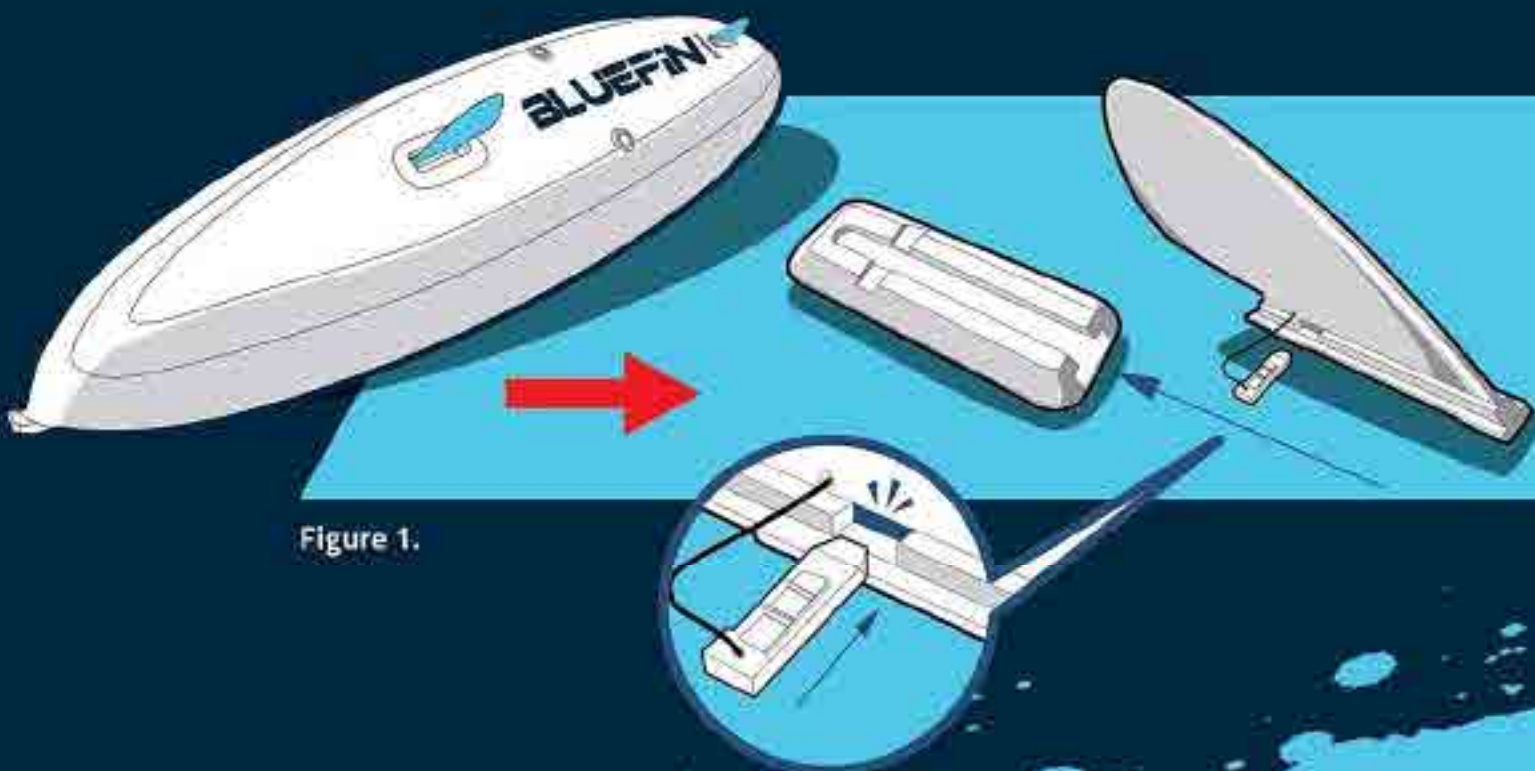

Figure 1.
- Insert the fin into the fin box slot via the end gap. **Figure 1**